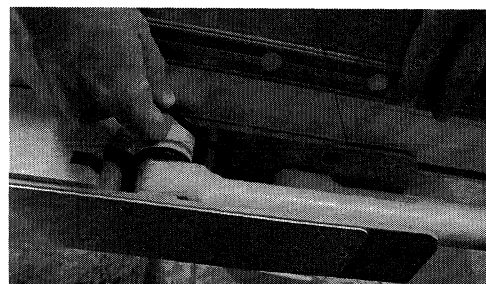

Fig. 10
- d. Side screws fastening primary bracket to rail (Fig. 10).